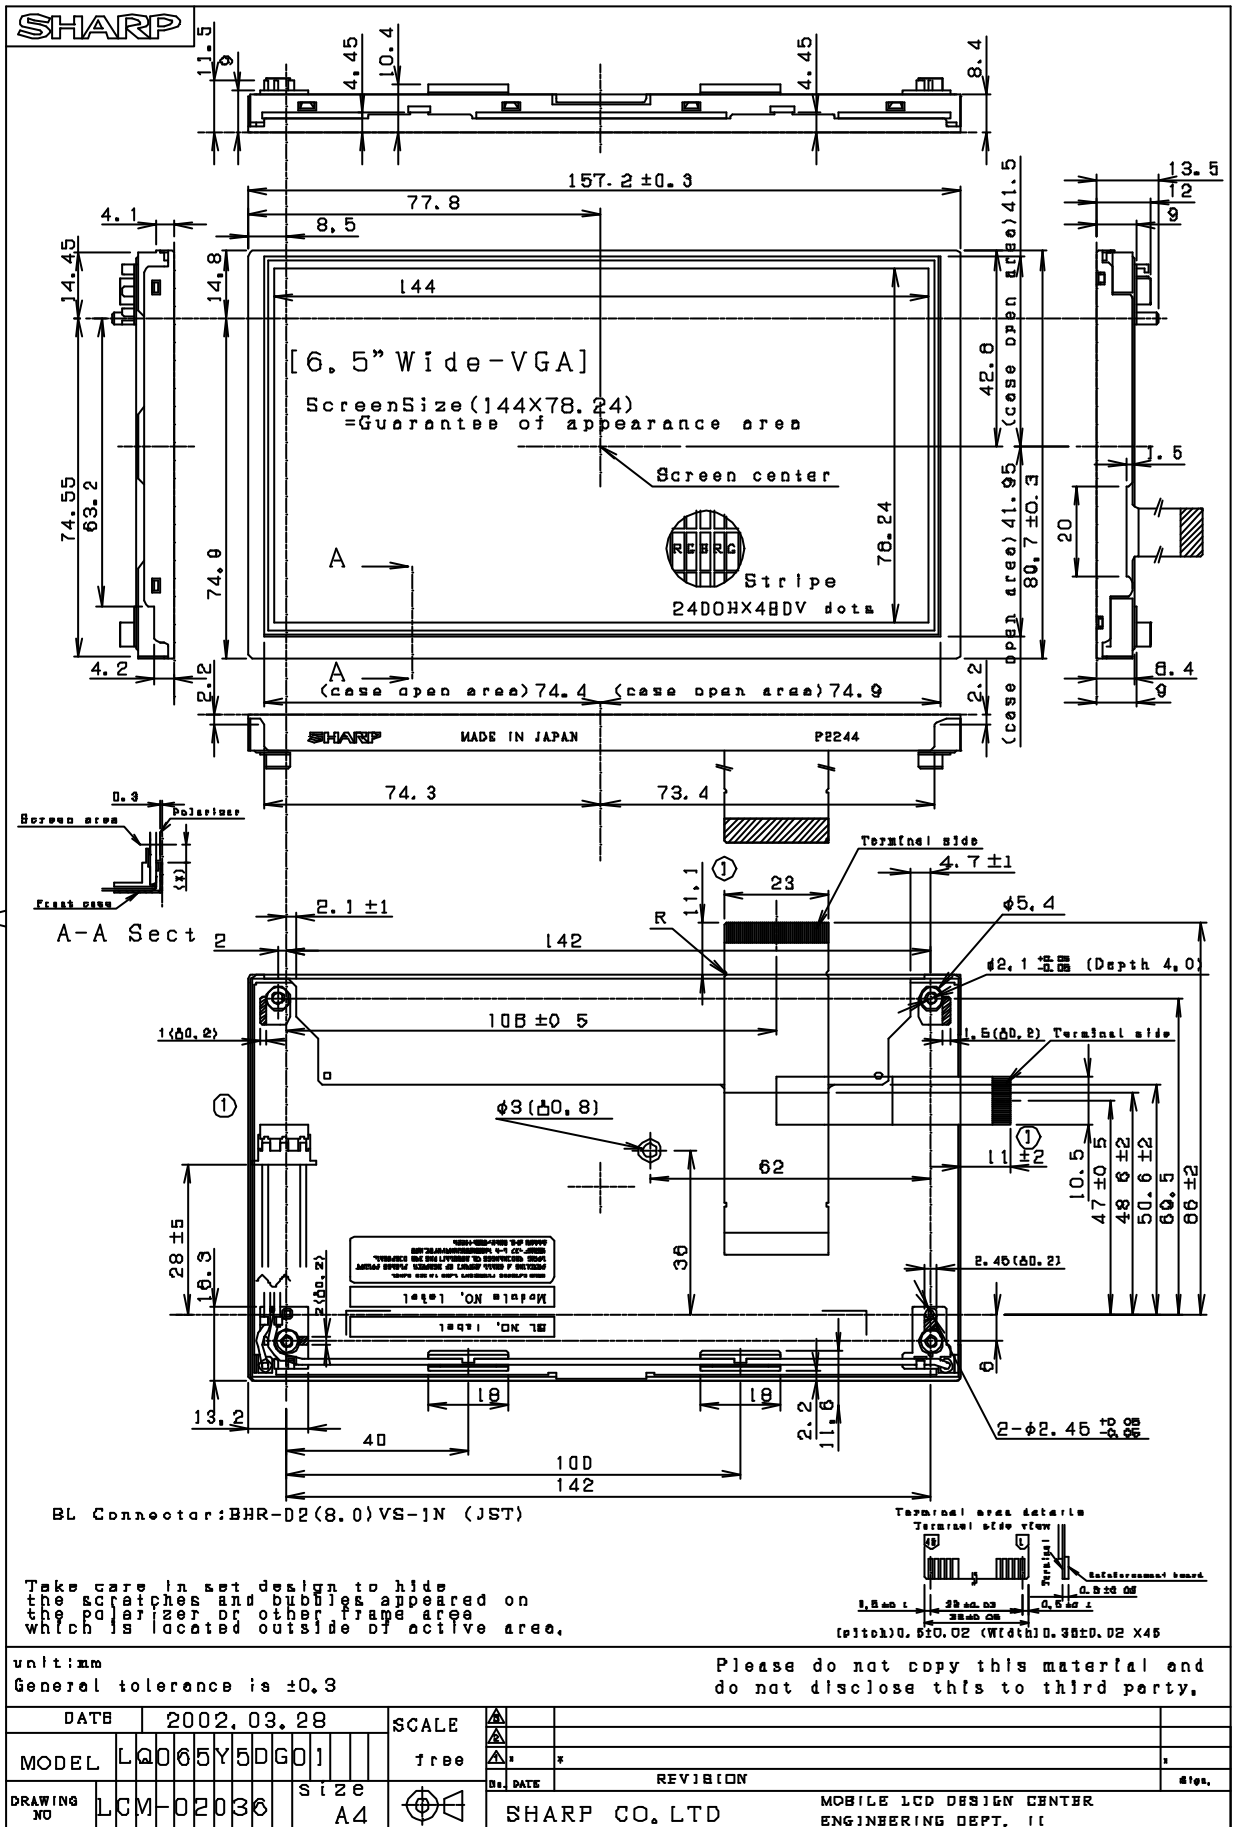

Fig.1 Outline dimensions
Do not exist extreme defects. (See Fig.1)
2)FPC flexibility : Slit on the film cover lay coat part of one side printing (Fig.1 A)
Please bend FPC only at a film cover lay slit part (Fig.1 A)
Attached location of the label : See Fig.1 (Outline Dimensions).